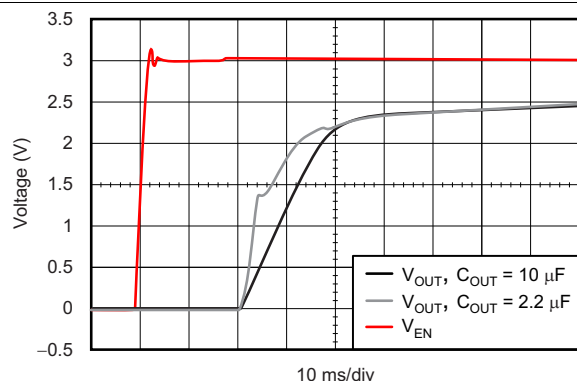
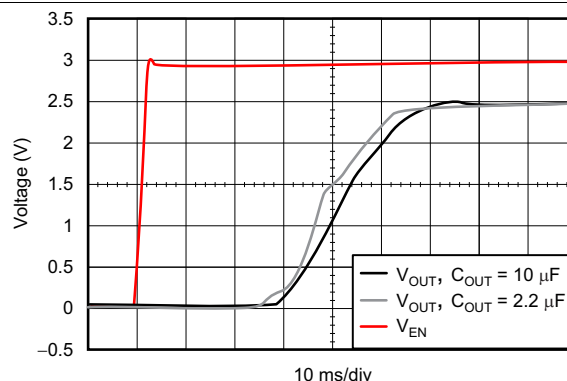

Figure 17. TPS73525-Q1 Turn-On Response ($V_{IN} = V_{EN}$)
Figure 18. TPS73525-Q1 Turn-On Response Using EN
Note that for fastest start-up, apply V_{IN} first, then drive the enable pin (EN) high. If the EN pin is tied to the IN pin, start-up is somewhat slower. Refer to the Typical Application section (see Figure 17 and Figure 18). The quick-start switch is closed for approximately 135 μ s. To ensure that C_{NR} is charged during the quick-start time, use a capacitor with a value of no more than 0.01 μ F.